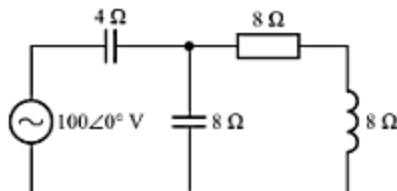

Fig. C-68
- C-114.** For the circuit shown in Fig. C-68 find (a) the current delivered by the source, and (b) the power factor.